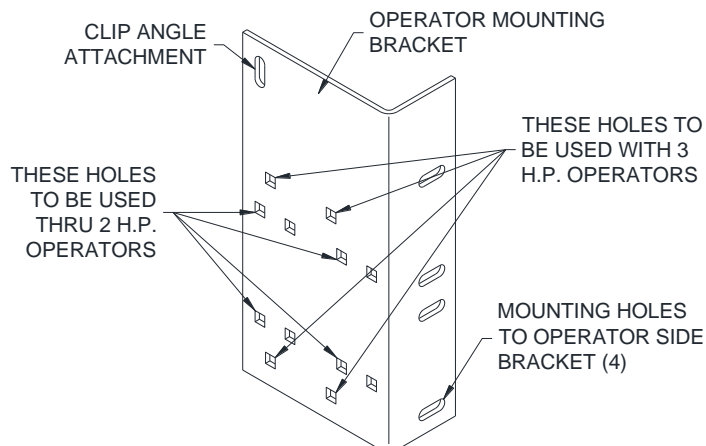

Figure 7.1 - Additional Operator Bracing
5. Lift the motor operator into position on the mounting bracket and align it with the appropriate hole pattern. See **Figure 7.1** for operator mounting details.